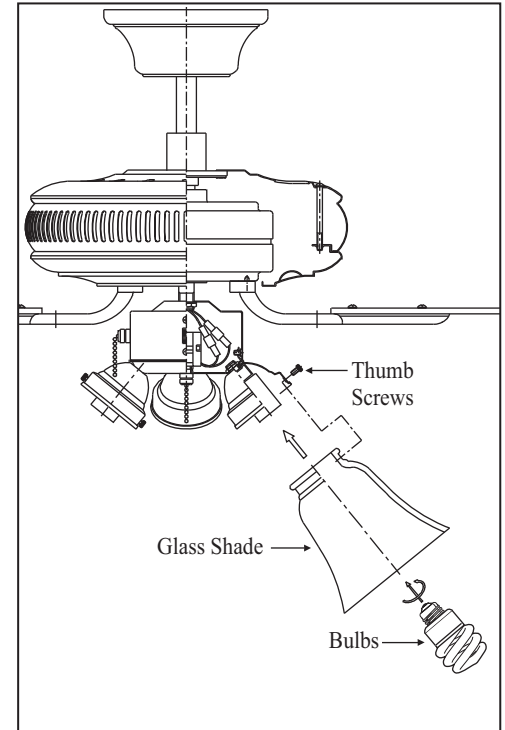

Figure 21
3. Mount the glass shades to the light fixture by unscrewing partway the thumbscrews on the glass holders, insert the glass, then gently tighten the thumbscrews by hand evenly to the glass. **DO NOT OVER TIGHTEN.** (Fig. 21)